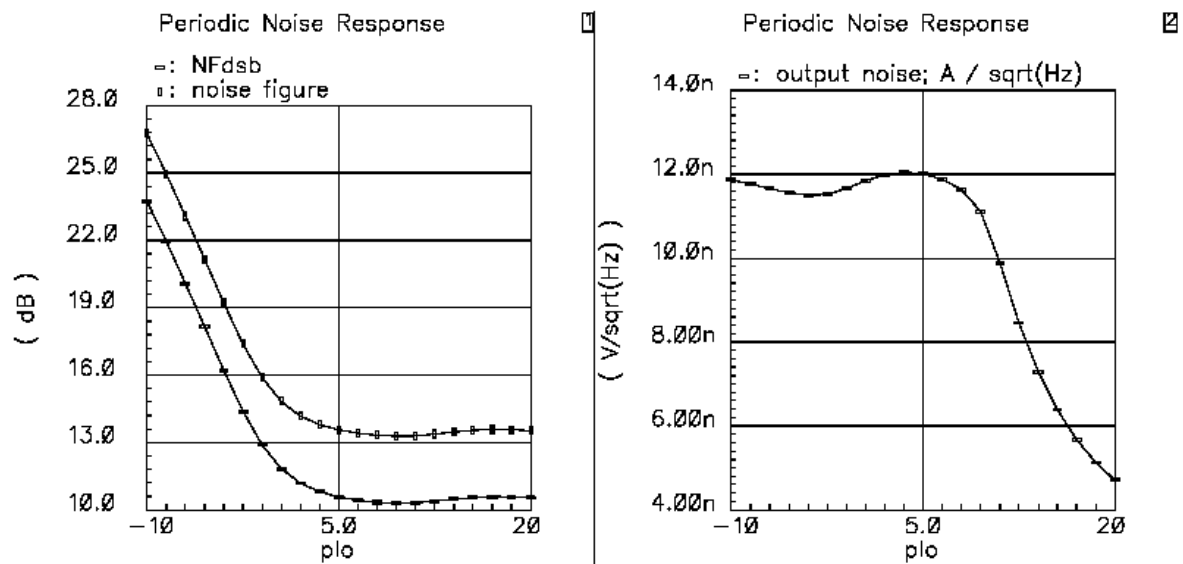

Fig 11: Noise Figure SSB, DSB and Output Noise
- *You will see the plot as shown in Fig 11*